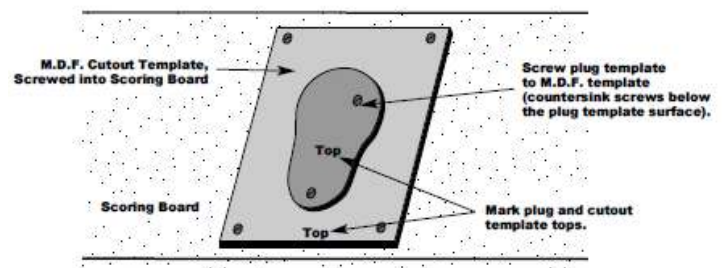

Figure H-2
1. Using a plunge router (min. 3-hp) fitted with a 1" (25 mm) template guide and a double-fluted  $\frac{3}{8}$ " (10 mm) tungsten carbide bit, carefully follow the plug template as shown in Figure H-2.